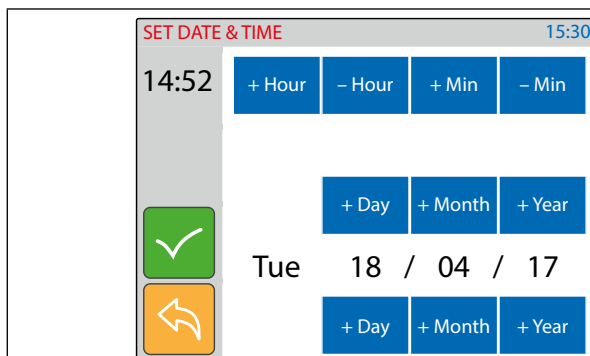

Fig. 13 Set the date & time
- The current date & time is shown (**Fig. 13**).